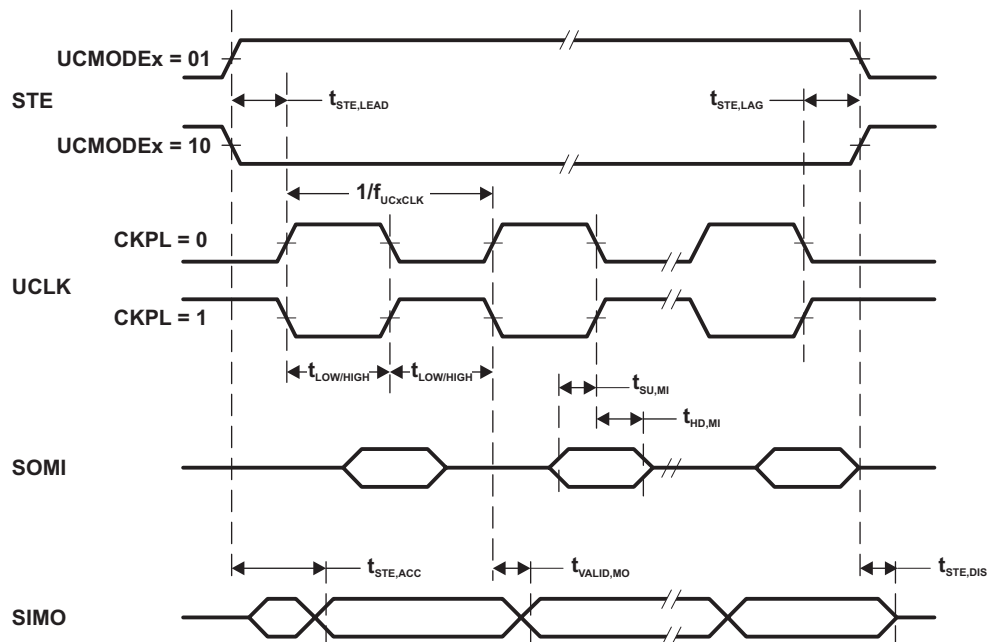
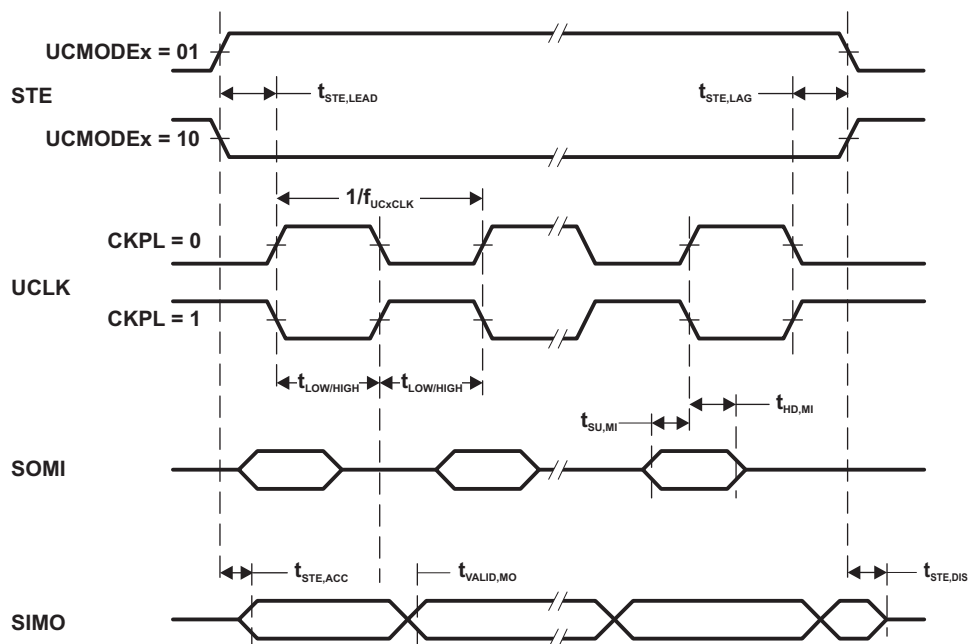

Figure 5-1. SPI Master Mode, CKPH = 0
Figure 5-2. SPI Master Mode, CKPH = 1
(2) Specifies the time to drive the next valid data to the SIMO output after the output changing UCLK clock edge. See the timing diagrams in Figure 5-1 and Figure 5-2.
(3) Specifies how long data on the SIMO output is valid after the output changing UCLK clock edge. Negative values indicate that the data on the SIMO output can become invalid before the output changing clock edge observed on UCLK. See the timing diagrams in Figure 5-1 and Figure 5-2.